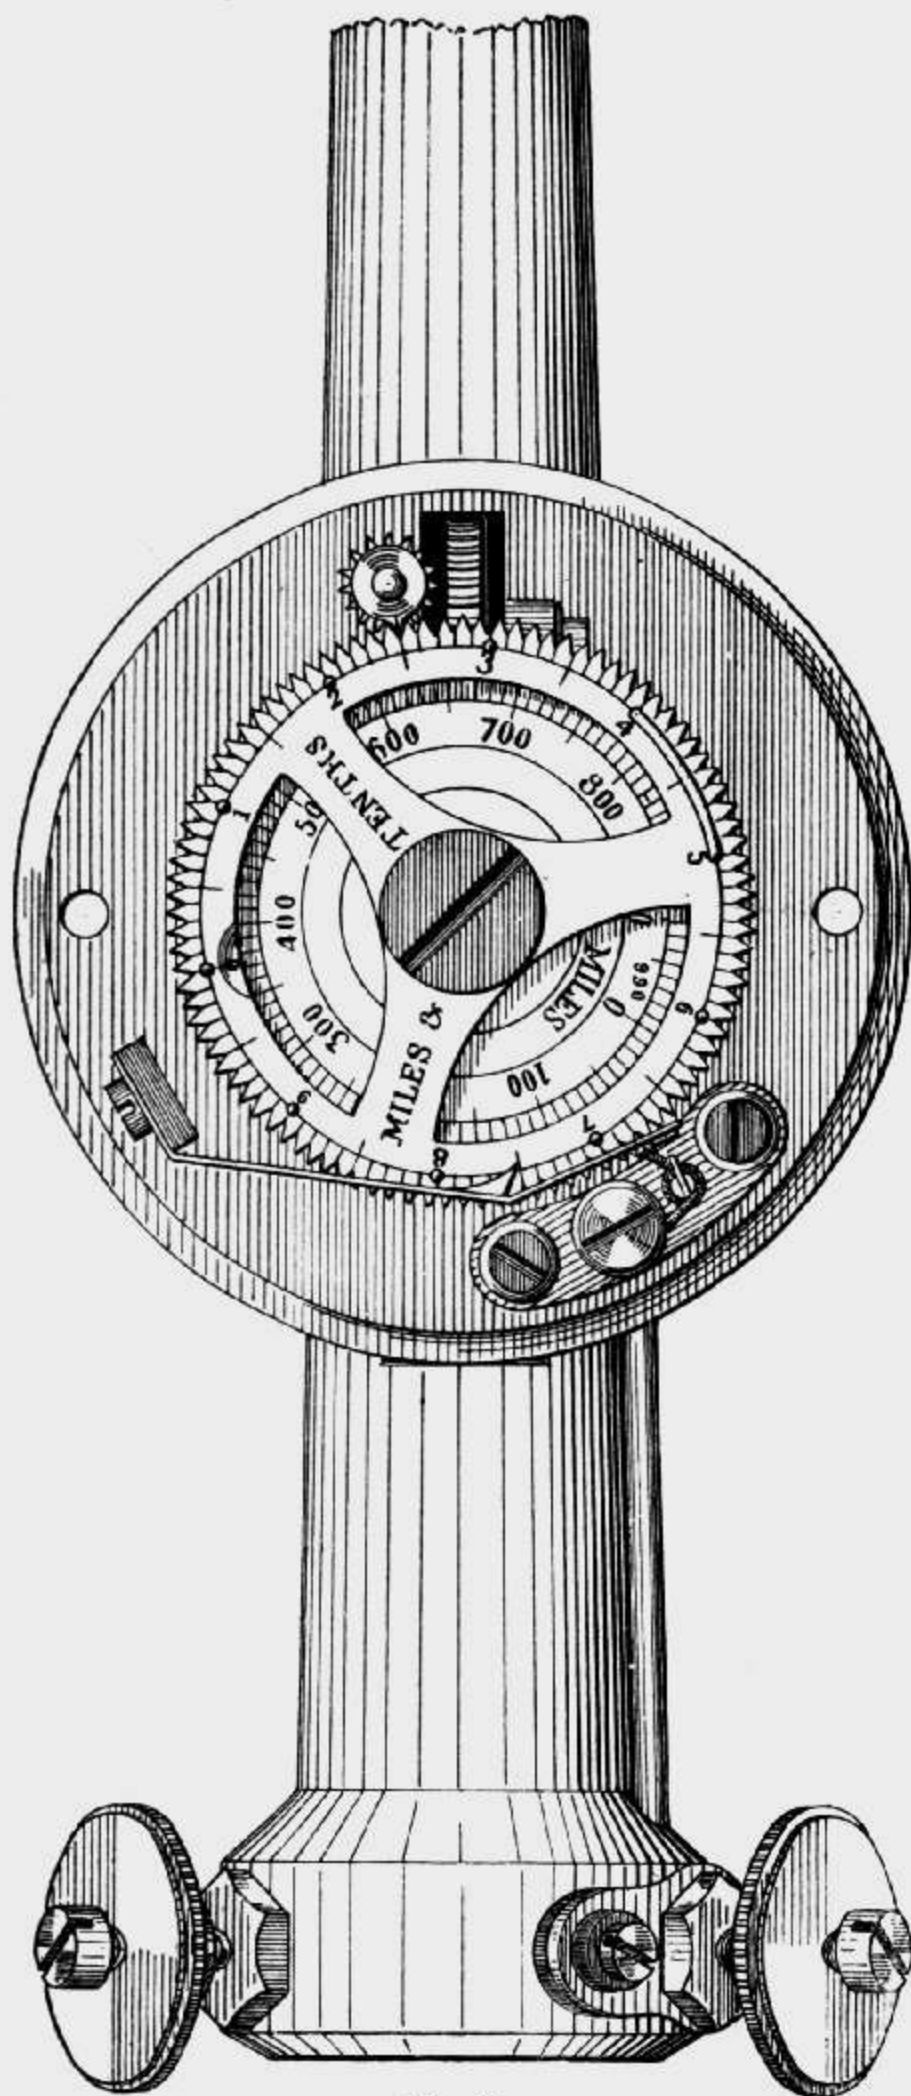

Fig. 37.
1. *Dials, How read.* The standard pattern of anemometer used by the Weather Bureau has the registering dials mounted concentrically. The outer dial has 100 and the inner dial 99 divisions. As the dials are moved by the same wheel, they will move forward one hundred divisions in the same time (Fig. 37). The outer dial having one hundred divisions, the inner dial will complete one revolution and its zero be one division beyond or to the left of the zero of the outer dial when the outer dial has completed one revolution, the zeros of the scales coinciding at the time the instrument was set in motion. Thus the revolutions made by the outer dial are recorded on the inner one, the number of revolutions being shown by the number of divisions of the scale on the inner dial between the zero of that scale and the zero of the outer one. In taking the reading of the anemometer at any time, the hundreds and tens of miles are read from the inner scale and the miles and tenths of miles are read from the outer one. Take from the inner scale the hundreds and tens of miles contained between the zero of that scale and the zero of the outer one, and the miles and tenths of miles on the outer scale contained between the zero of that scale and the index of the instrument, and the sum of these readings will be the reading of the instrument at the time of making the observation.
*Example:* The dial reading of to-day is 372, (see Fig. 37), and that of yesterday was 983, hence we have  $372+990=1362$ ;  $1362-983=379$ , the total observed movement of the wind in miles during the past twenty-four hours.